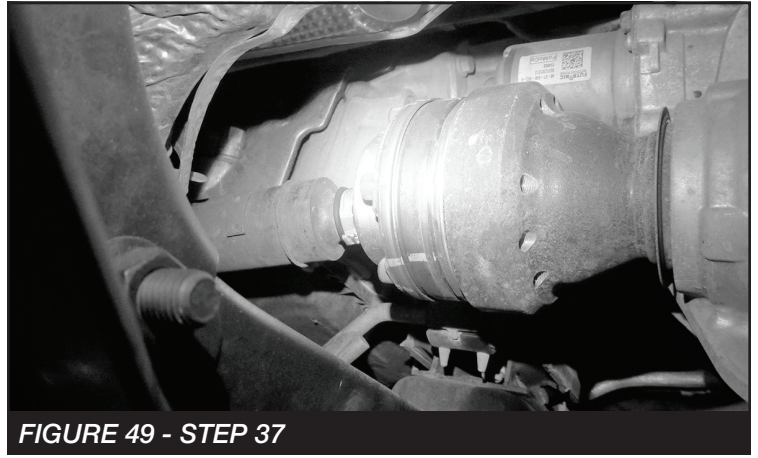

FIGURE 49 - STEP 37
37. Install the rear (transmission side) with FT31055 (Spacer Trans. side (1/2" Spacer)) and M8x 70mm bolts. Torque to 27 ft-lbs. **SEE FIGURE 49**